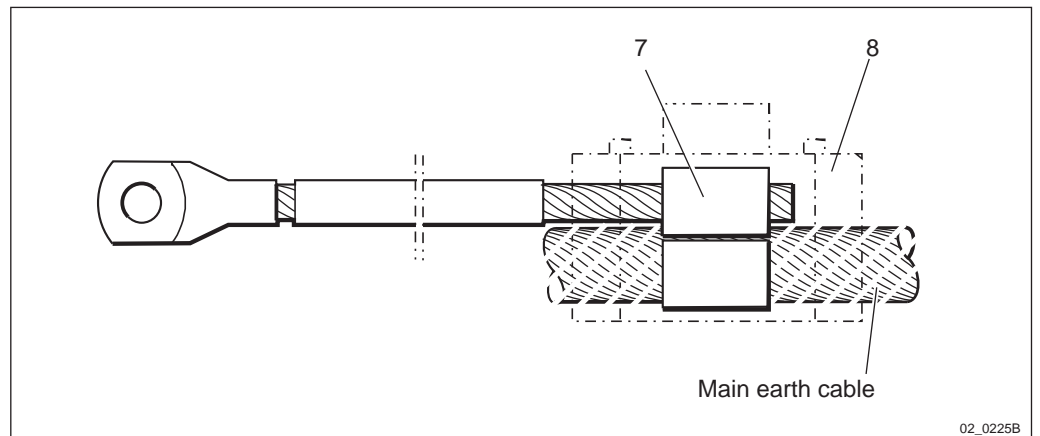

Figure 2 Crimping the equipment earth conductor 5/NTM 201 201or NTM 201 244/1 to the main earth cable
8. Lay and crimp the equipment earth conductors (pos 1) to the main earth cable in the direction towards the earth bar, see figure 2.